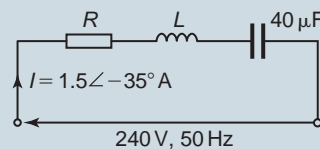

Figure 17.19
- Find the values of resistance R and inductance L in the circuit of Fig. 17.19.